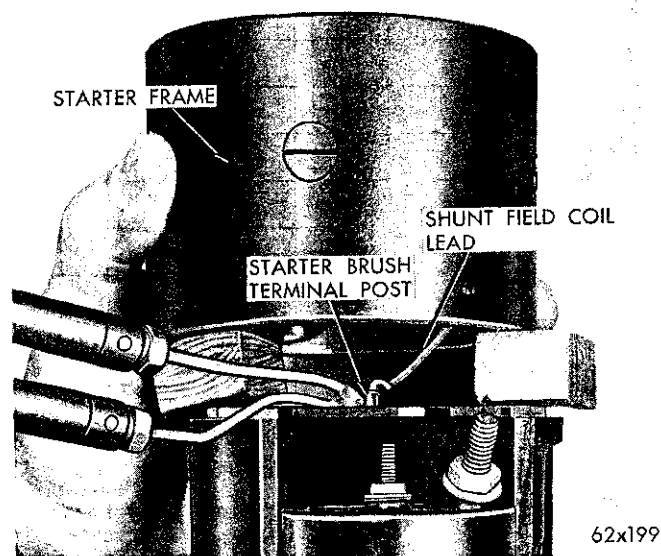

Fig. 3—Unsoldering the Shunt Coil Lead Wire
(5) Unsolder the shunt field coil lead from the starter brush terminal (Fig. 3).